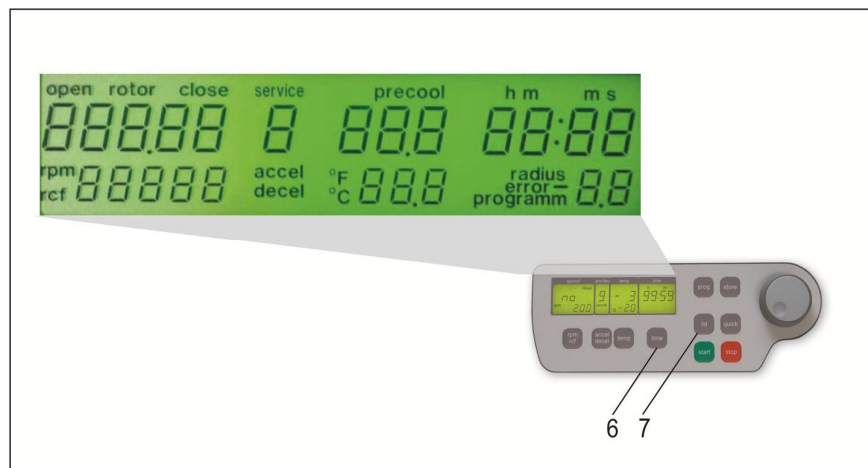

Figure 3
If the centrifuge is still turned off, press simultaneously the keys „time“ (6) and „lid“ (7) and turn on the main switch of the centrifuge. Now release both keys again. As a result a display test is executed for approx. 5 seconds. All possible indications will appear at the same time (see figure 3).